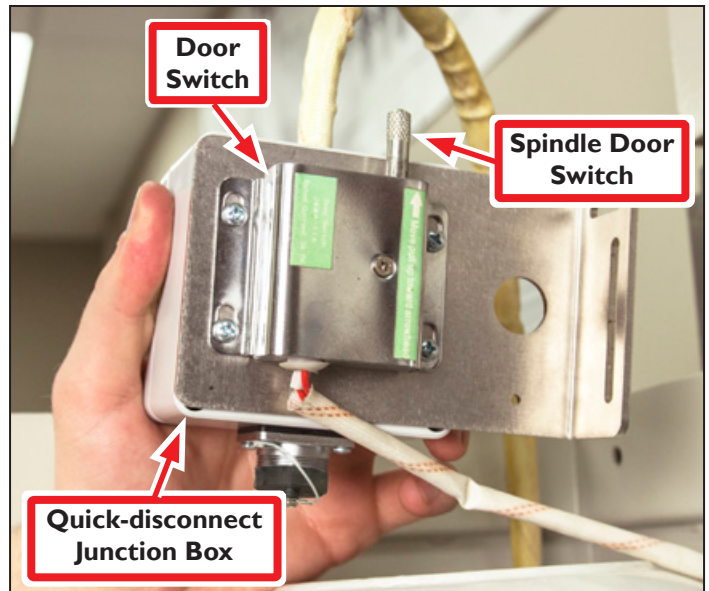

Figure 19
NOTE: Verify that the Spindle Door Switch is positioned as shown in **Figure 19** and **Figure 20**.
- Connect the assembly together with four 6-32 Thread Cutting Screws (provided) as shown in **Figure 19**.
- Install the Mounting Bracket Assembly in place of the discarded bracket with two M4 × 12 mm Socket Head Cap Screws, two M4 Flat Washers, and two M4 Lock Washers (provided) (see **Figure 19** and **Figure 20**).